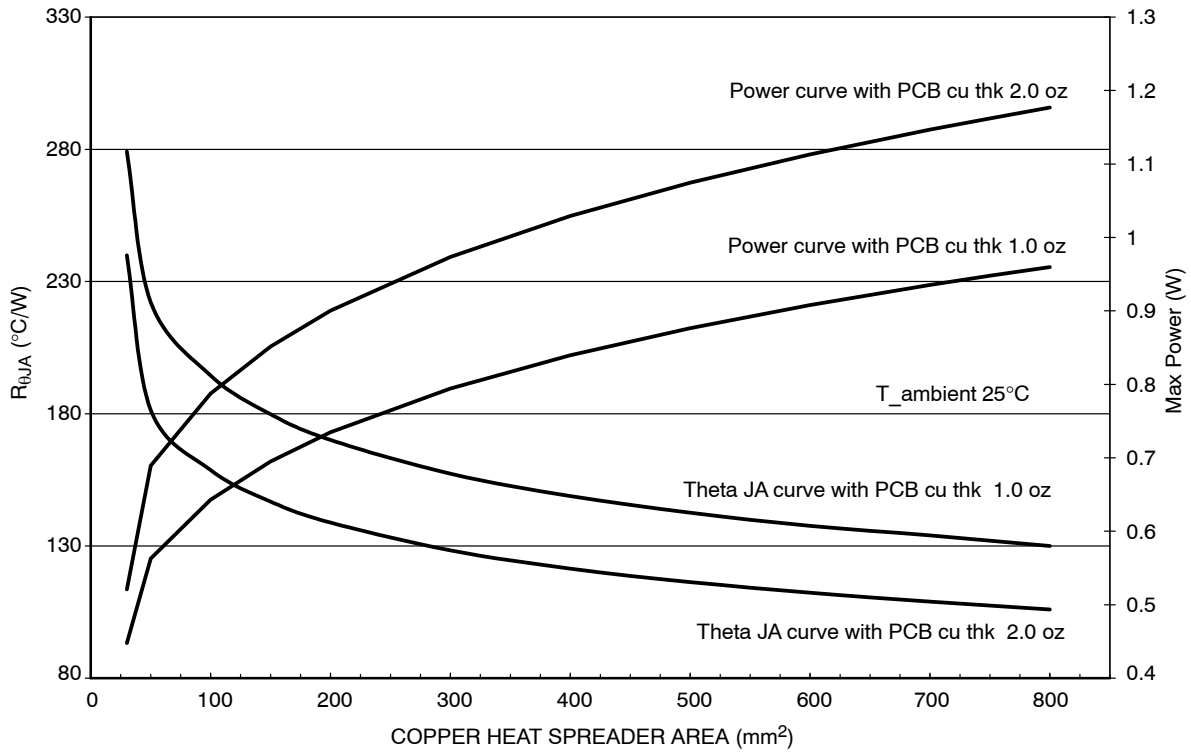

Figure 10. Self Heating Thermal Characteristics as a Function of Copper Area on the PCB
Figure 10 illustrates a steady state plot of the change in thermal resistance and max power dissipation that occurs with a change in the amount of copper spread across a given area. Evaluating the plots at the minimum recommended pad size and one-inch square pad size yields the following maximum values;
**Table 5. Maximum Ratings from Figure 10**